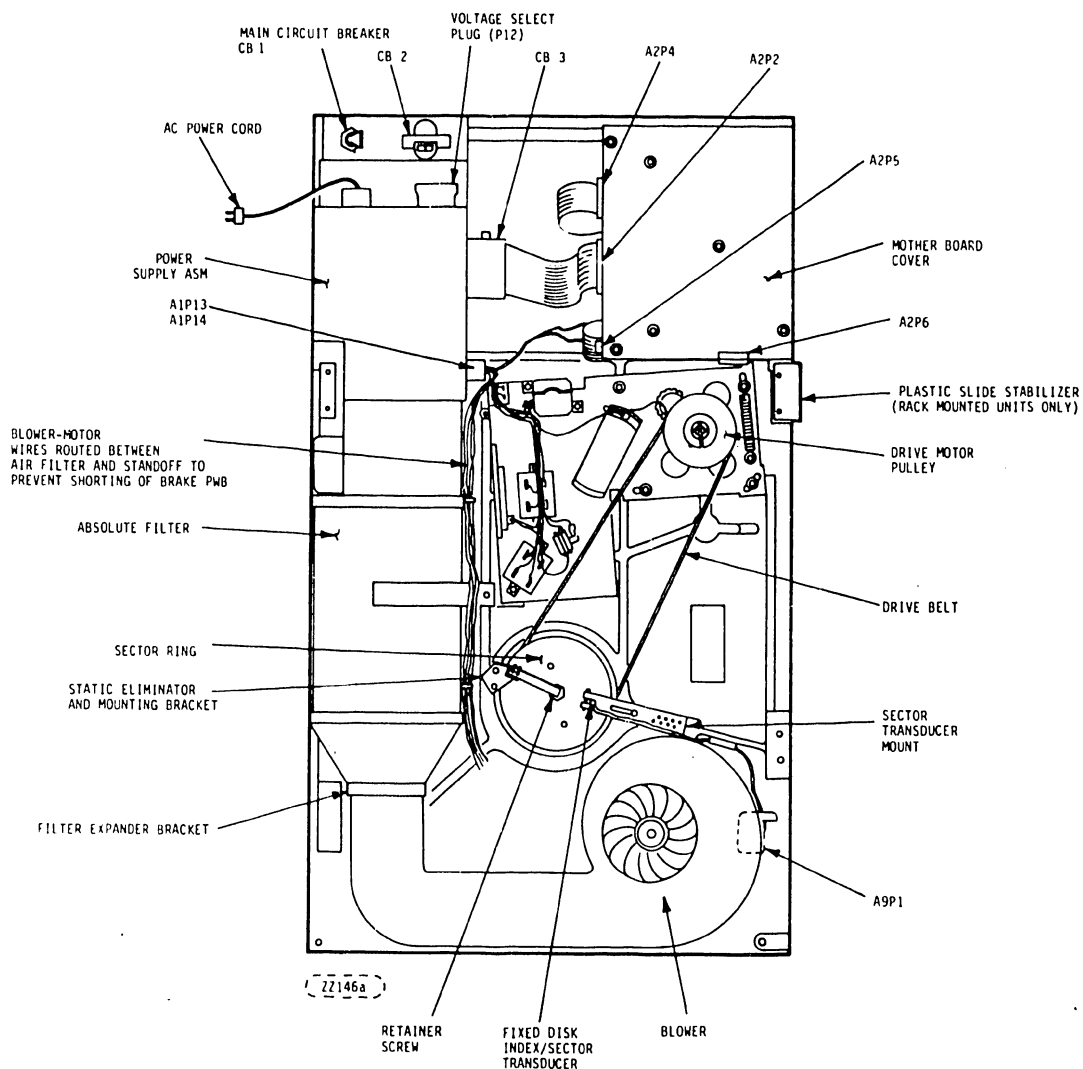

FIGURE 6-11. MODULE LOCATOR (BELOW DECK)
21. Remove spindle drive belt (Figure 6-11), by applying pressure to edge of drive-motor plate near A7TB1.
5. Loosen the two upper bracket (with slots) mounting screws (B) and move bracket flush against the scale assembly.
6. Tighten the two thermal link mounting screws (C) securing the upper bracket to the scale assembly.
7. Tighten the two screws (B) securing the upper bracket to the fixed lower bracket.
8. Install spindle drive belt (Figure 6-11) by applying pressure to edge of drive motor plate near A7TB1.
7. Remove static eliminator (Figure 6-11) by removing one screw.
9. Remove retainer screw (Figure 6-11).
5. Remove transducer assembly mount (see Figure 6-11) by removing one screw (note orientation of sector option).
6. Remove static eliminator and its mounting bracket (see Figure 6-11).
7. Remove sector ring (see Figure 6-11) by removing two screws.